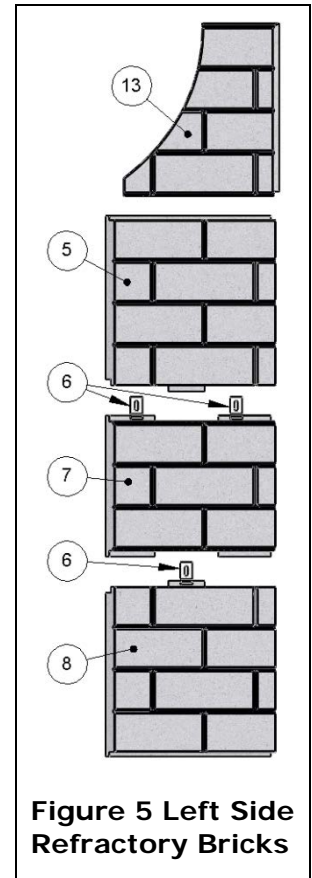

Figure 5 Left Side Refractory Bricks
16. Once the upper brick (4) is in place, slide the throat refractory brick as far right as it will go and let it rest against the upper brick.
While referring to Figure 5, install the left side refractory bricks in the same manner as the right side was installed (steps 5 through 15). When finished, ensure that the throat refractory brick (1) is centered.